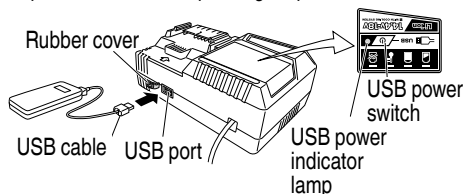

Fig. 12
- (2) Turn the USB power switch ON (Fig. 12)
- (3) Connect the USB cable. (Fig. 12)
- (4) When charging is completed
- Turn the USB power switch OFF and unplug the power cord from the electrical outlet. (Fig. 12)